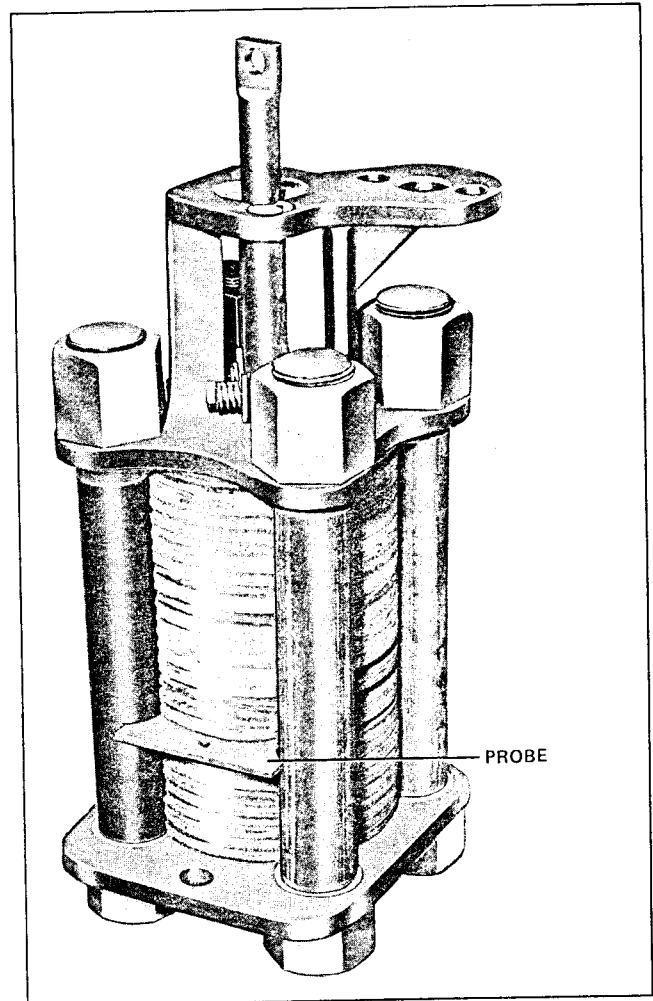
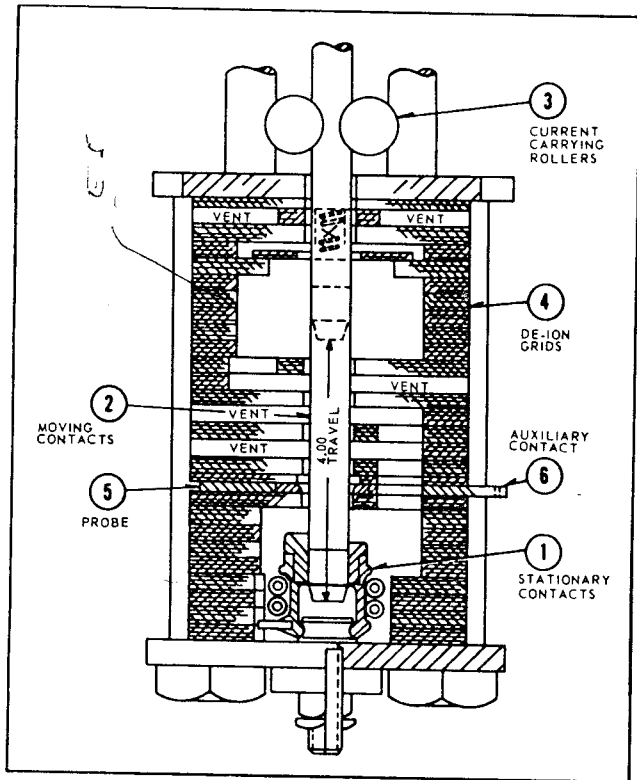

Fig. 5. Current Interrupter
Fig. 6. PRC and PRCB 4000 Current Interrupter
The capacitor switch has 3 heavy, grid plate interrupters using the basic Westinghouse De-ion design. Each interrupter (Figure 5) contains a series of insulated, vulcanized fibre plates (Figures 6 & 7, Item 4). Heavy brass castings and steel plates serve as the top and bottom respectively. A resistor probe (5) is added to make connection with the moving contact rod (2) as it moves past. A silver tungsten collar is brazed to the inside perimeter of the probe disc to provide the auxiliary contact with good arc resistance. Special high strength laminated rods complete the interrupter's compact assembly. Silver tungsten tips on the moving and stationary contacts, provide high conductivity and long life.
The stationary contact (Figures 6 and 7, Item 1) in each pole is a self-aligning nest of spring-biased tulip contacts. Current is carried along the moving contact rod and